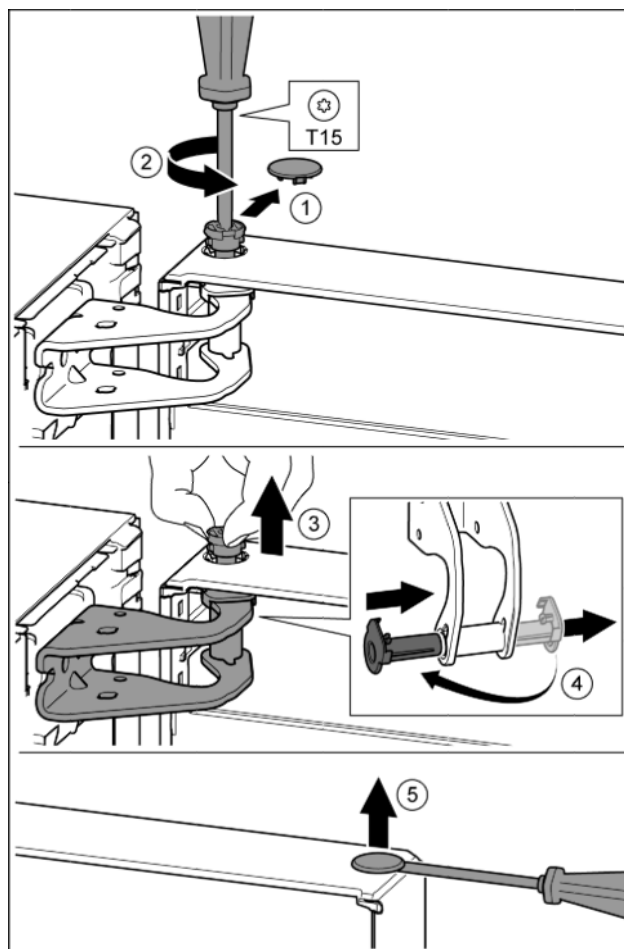

Fig. 8
- Carefully remove the safety cover. Fig. 8 (1)
- Undo the bolt a little with a T15 screwdriver. Fig. 8 (2)
- Hold the door and remove pins with your fingers. Fig. 8 (3)
- Pull the bearing bush out of the guide. Insert from the other side and click into place. Fig. 8 (4)
- Carefully lift the plugs out of the door bearing bush with a slotted screwdriver and remove. Fig. 8 (5)